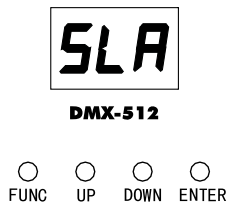

Fig.7
- Press the button FUNC so many times until the display shows [*SLA*] (fig.7).